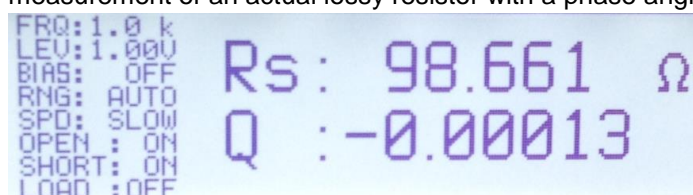
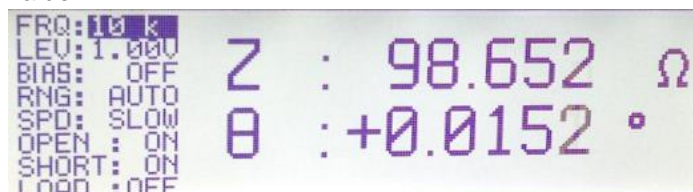

Fig. 2-6: Display of resistance and quality for a resistor at 1 kHz.
Fig. 2-7: Display of impedance and phase angle for a resistor.
- The correct measurement function is set automatically in Auto mode, which is enabled by default (see Fig. 2-8 and Section 2.1.2.1). In this case, R-Q is displayed, i.e. resistance R and quality Q (Fig. 2-6). Other parameters such as impedance and phase angle are displayed by pressing a key and selecting the appropriate measurement functions as described in the manual. In the case of an ideal resistor, the phase angle is 0°. Fig. 2-7 shows the measurement of an actual lossy resistor with a phase angle of 0.0152°.